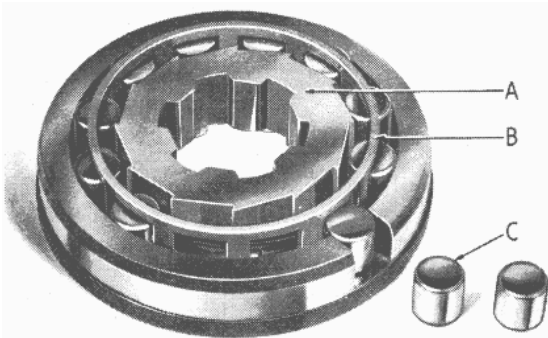

Fig. 19 Assembly of Roller Clutch.
The inner member with cage and spring is then placed into the assembly ring and the rollers (C) are pushed in through the slot in the rim of the ring (Fig. 19).
The assembly of the roller clutch as shown in this Manual covers all the Triumph Sports, Prefix No. 1275/, and Vanguard Overdrive Units which have prefix No. 1327/. Earlier Vanguards which have prefix No. 1287/ on the plate of the overdrive are fitted with the narrow roller clutch. Assembly of this unit differs slightly, as the lip on the outer cage is towards the rear of the unit, and a locating peg on the inner member locates in a corresponding hole in the planet carrier. It will be seen, therefore, that after assembling the rollers as in Fig. 19, it will be necessary to transfer the roller clutch into another ring, Churchill Tool No. LI 89, and then from this ring into the annulus. This will then ensure that the lip on the outer cage is to the rear, and the locating peg facing forward.